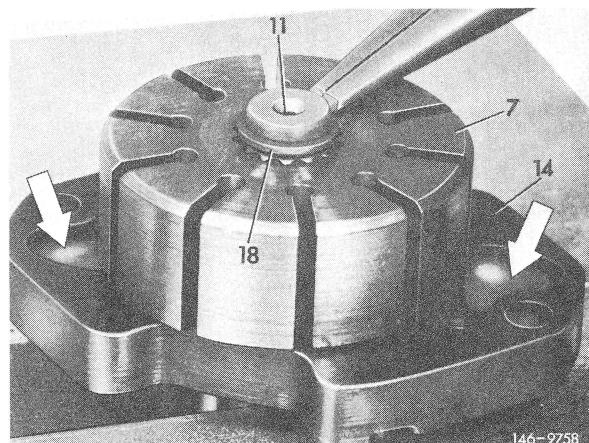

Fig. 2
- 1 Place wear plate (14) with recesses (refer to arrow) facing splining on drive shaft (11) (Fig. 2).
- 2 Place rotor (7) on splining of drive shaft (11) and insert locking ring (18) (Fig. 2).